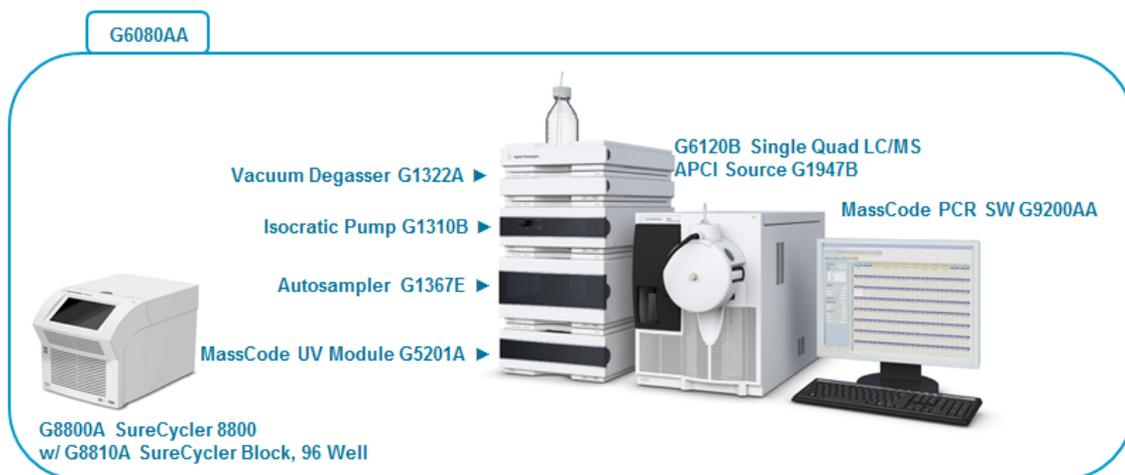

Figure 2 Hardware/Software Components for the Agilent MassCode PCR Research Solution
- Completely installed LC/MS hardware and MassCode PCR software (Figure 2). See the *Installation Guide*.